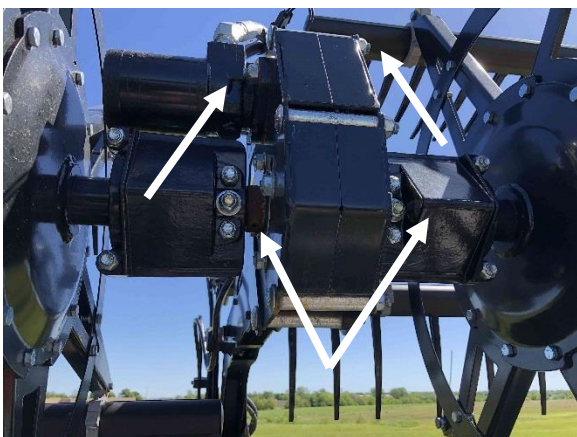

Figure 250
1. If there is flow at the motor, remove the motor from the gearbox. This is done by removing the two bolts on that retain the motor to the gearbox. Figure 250
2. Remove the coupler covers to remove the rubber couplings. Figure 250